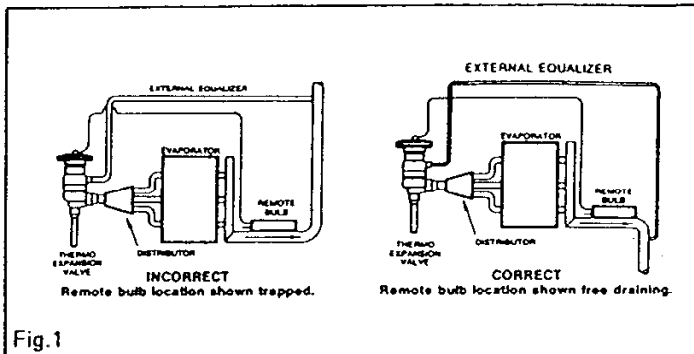

Fig. 1
7. Connect one end of external equalizer line to the valve. Connect the other end to the suction line slightly downstream from the remote bulb location and positioned so that it cannot siphon oil from the suction line. See Figure 1.